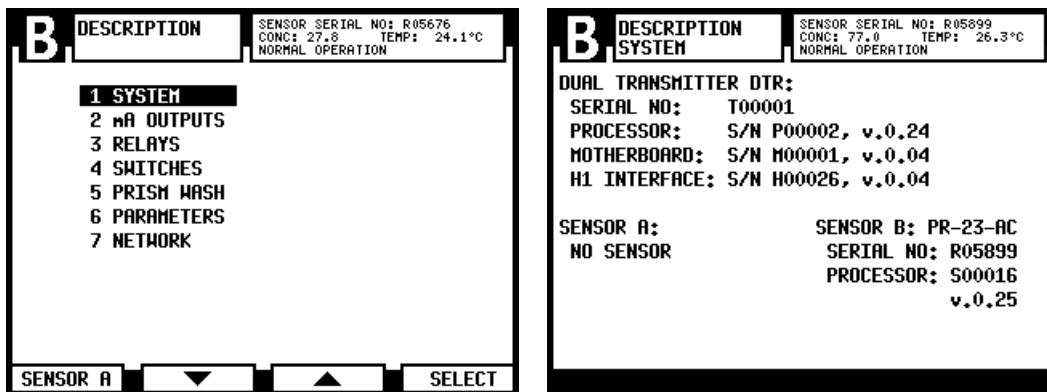

Figure 24 System description
1. **SYSTEM:** See Figure 24 \(page 56\), right side.